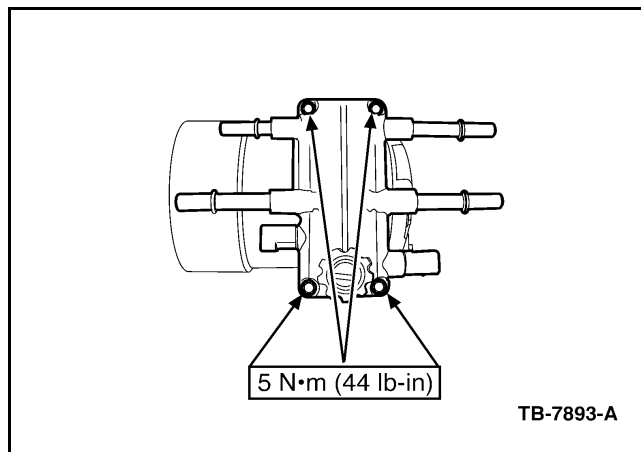

Figure 5 - Article 04-9-2
8. Install the new fuel manifold and screws (Figure 5).